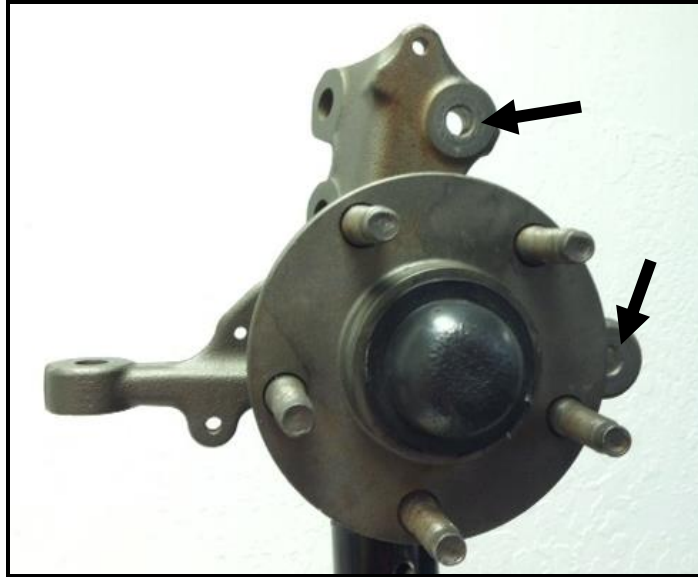

Figure 2: Caliper mount holes
5. Ensure the OEM caliper mount holes and hub surface are cleaned so that the new components will fit properly. See Figure 2 on continued page, for reference: